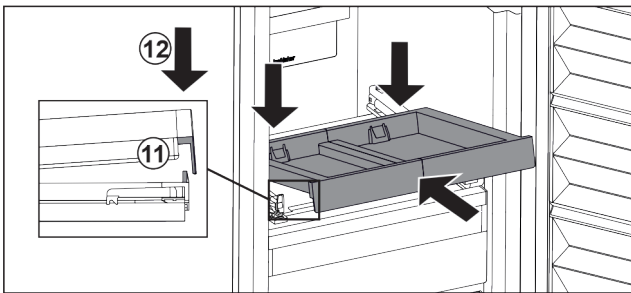

Fig. 88
- ▶ Slide it in at an angle. Make sure that the stop is behind the lug on both sides. *Fig. 88 (11)*
- ▶ Lower the pull-out board at the front. *Fig. 88 (12)*